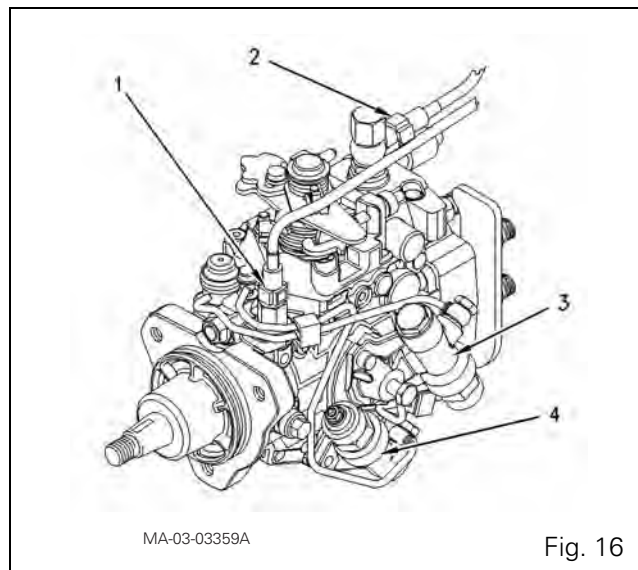

Fig. 16
85. Mark and disconnect the fuel pipes (1) and (2) from the injection pump (Fig. 16). Plug the unions to keep dust out of the channels.
86. Disconnect the injection timing system connector (3). Disconnect the engine stop solenoid connector (4) (Fig. 16).